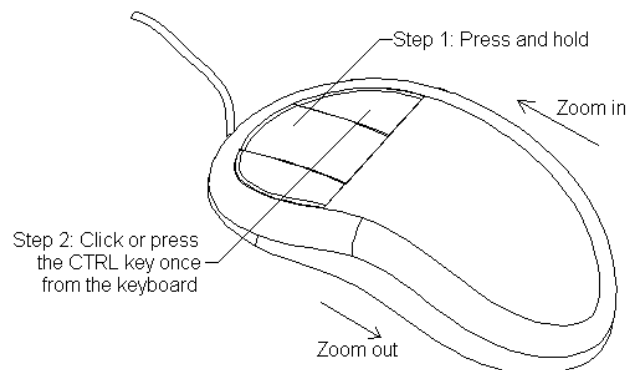

Figure 1-10 Using the three-button mouse to perform the zoom in and zoom out operations
4. Press and hold the middle mouse button and then click the right mouse button once to invoke the **Zoom** mode. Now, drag the mouse up to zoom in the view of the model. Similarly, drag it down to zoom out the view of the model. You can also invoke the zoom tool by first pressing and holding the CTRL key and then pressing and holding the middle mouse button. Now, release the CTRL key and drag the cursor to zoom in and out of the view of the model. Figure 1-10 shows how to use a three-button mouse to perform the zoom in and zoom out functions.